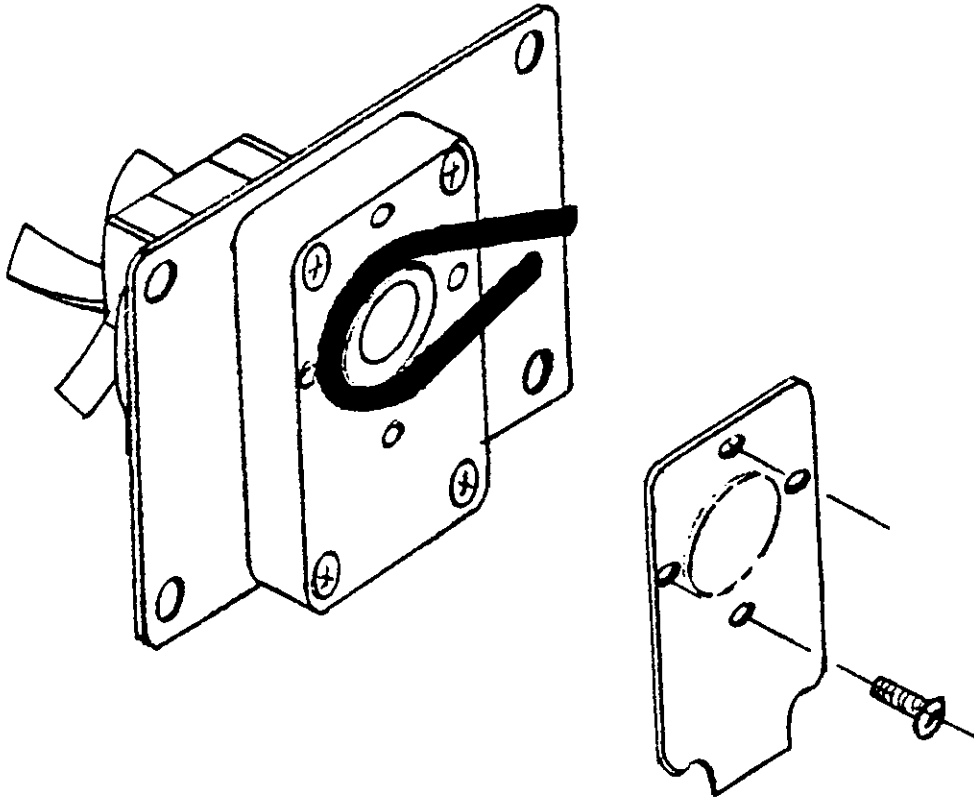

Figure 7
- (1) If possible, purge the NaOH delivery system and peristaltic pump with purified water, as described in *Chapter 4: Routine Maintenance*.
- (2) Unplug the RapidStill II from electrical service.
- (3) Turn the unit around to gain access to the peristaltic pump.
- (4) Remove the four small Phillips screws as shown in Figure 7.
- (5) Remove the pump cover, exposing the pump tube.
- (6) Pull the pump tube straight out of the pump housing.
- (7) Thoroughly rinse the tube and remove the pump fittings and clamps. Retain the fittings and clamps for use on the new tube.
- (8) Install the new tube by reversing the above steps.